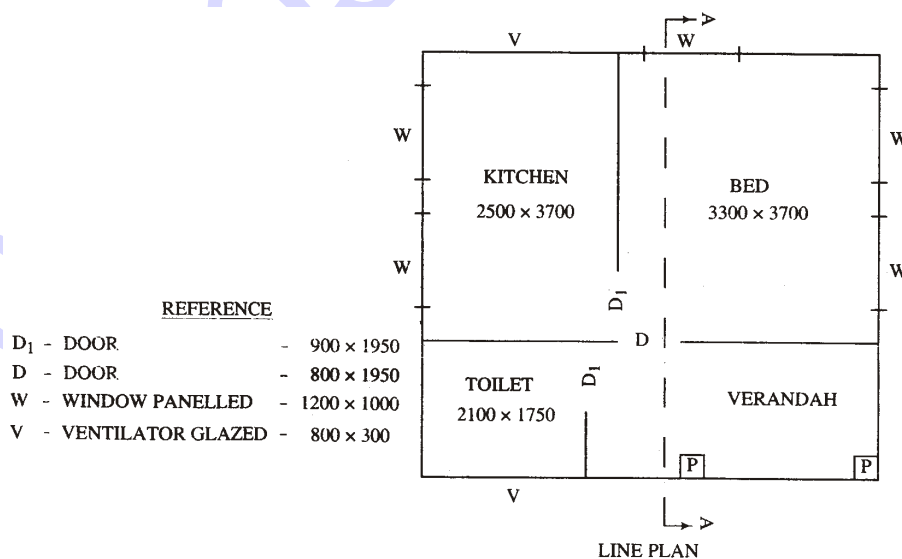

Fig. 1
2. Draw the layout plan indicating the position of beams and columns as per column grid reference scheme for the plan shown in Fig. 1 :